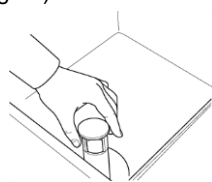

Fig.21
- 1- Open the door and remove the water flow device. (Fig.21)